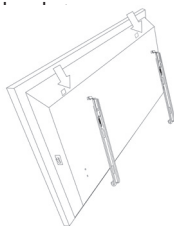

Figure 8. Back view of fastening the upper
5. Back side of the Electric Panel Convactor Heater with arrow sign will be placed to the plastic part of the wall mounting brackets as shown in the figure 8. (↓)